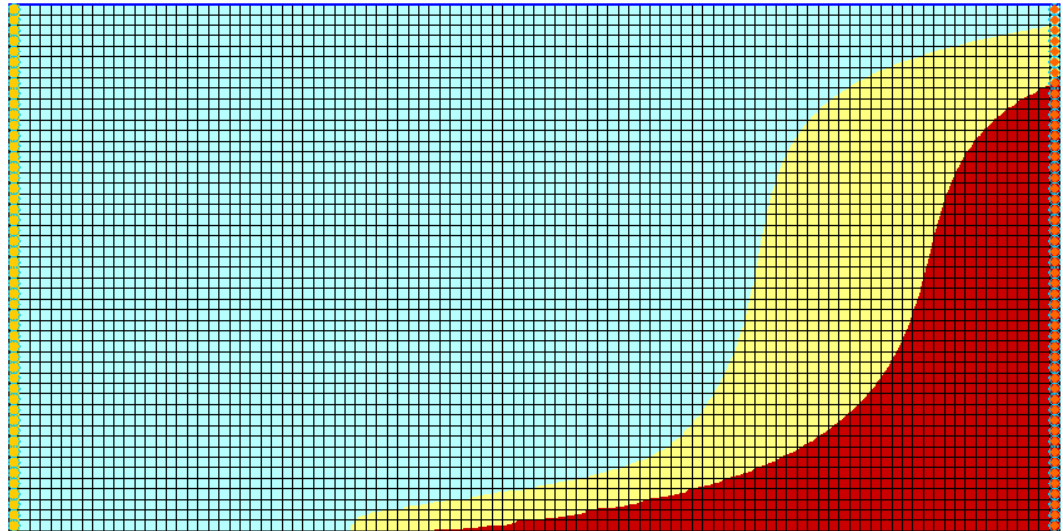

Figure 5 Case2 salt concentration – time step 16
2. Under “ case2 (MT3DMS)”, view the “ Salt” dataset, time step 16 (Figure 5).